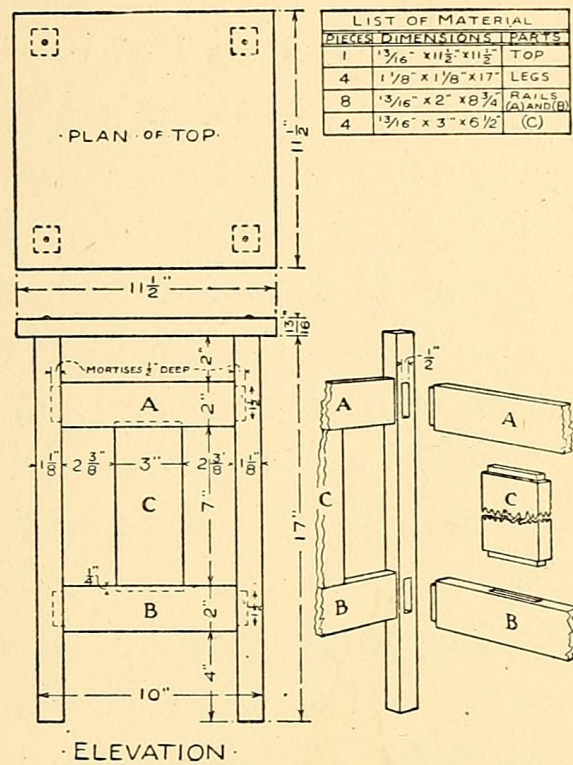

FIG. 127. — Details of Tabouret shown in Fig. 123.
**The Tabouret** shown in Fig. 123 requires a little more work than that in Fig. 122, as the panel pieces *C* (Fig. 127) are tenoned into the rails *A* and *B*, and the ends of the rails are tenoned into the legs; but mortising is a simple operation once it has been mastered, and the mortise-and-tenon is one of the most commonly used